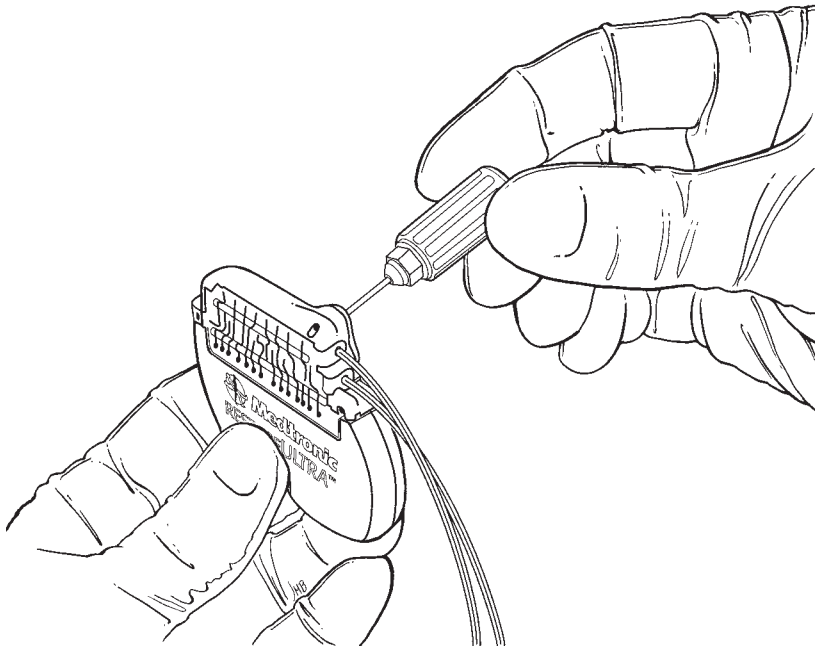

FIGURE 62
- 4 For each lead or extension, fully insert the torque wrench from the neurostimulator package into each self-sealing grommet of the connector block and tighten each setscrew (FIGURE 62).